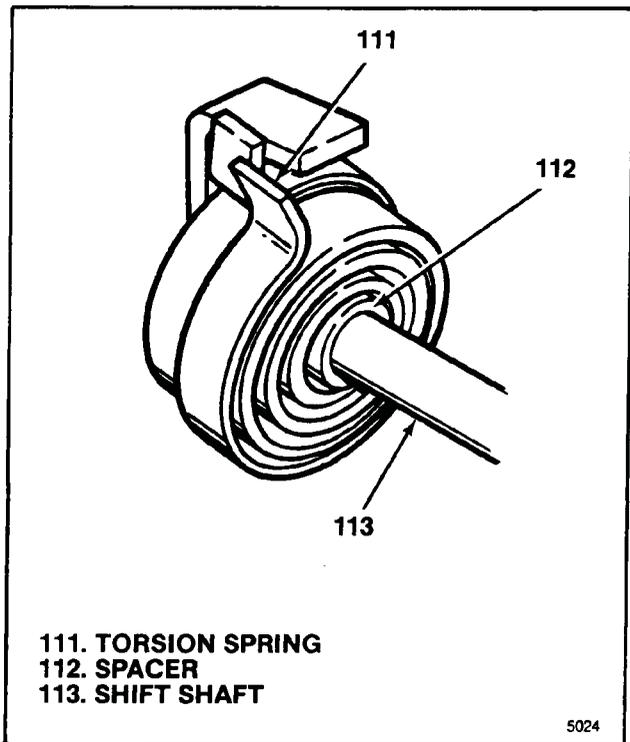

Figure 5-4. Installing First Spring End
- a. Insert spacer (112) in torsion spring (111) ID and install over free end of shift shaft (113).
- b. Slide torsion spring (111) and spacer (112) on shift shaft (113) up to drive tang and position first spring end to left (viewed from free end of shaft) of drive tang (see figure 5-4).